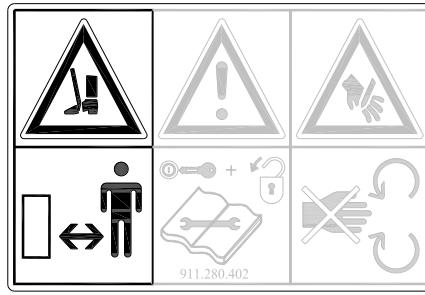

Fig. 4
**Remain at least 4 metres away!** (Fig. 4)